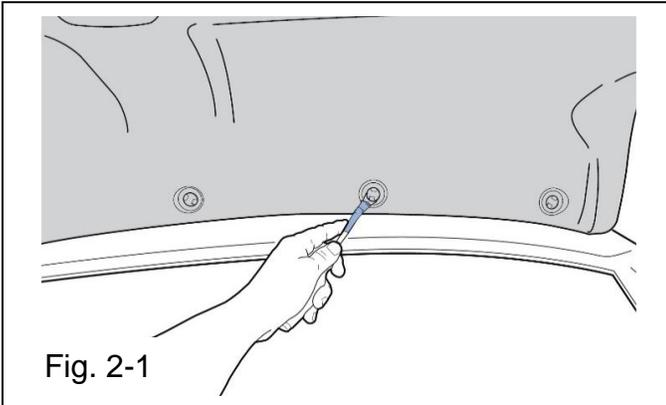

Fig. 2-1
- a) The deck lid liner panel should already be removed from the connector drying process. However, if the panel is still installed, use a trim removal tool to disengage and remove the 11 clips from the interior decklid panel. (Fig. 2-1).